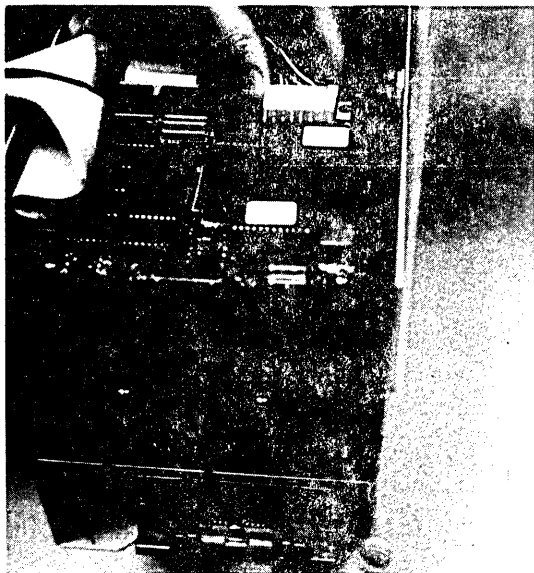

FIGURE 5
7. Locate the plastic power connector at the right side of the uppermost PC board (see Figure 5). Gently work it out of its socket.